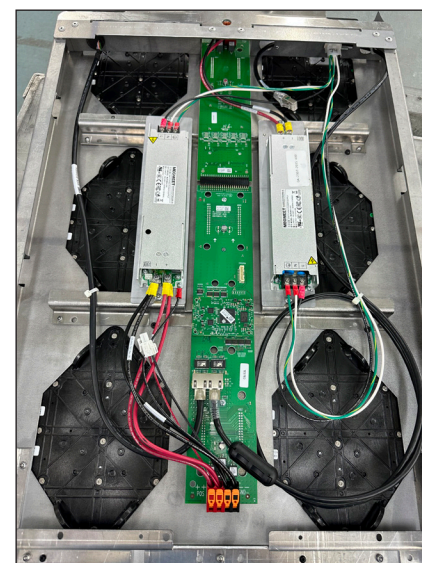

Figure 12: Hub Board
3. Disconnect the Cat 6 cables from the RJ45 jacks on the hub board. Refer to **Figure 12**.
- Use a Phillips screwdriver to loosen the connections on the power supply and disconnect the cables extending from the board. Refer to **Figure 12**.
- Open levers on the terminal block and disconnect the cables extending from the board. Refer to **Figure 12**.